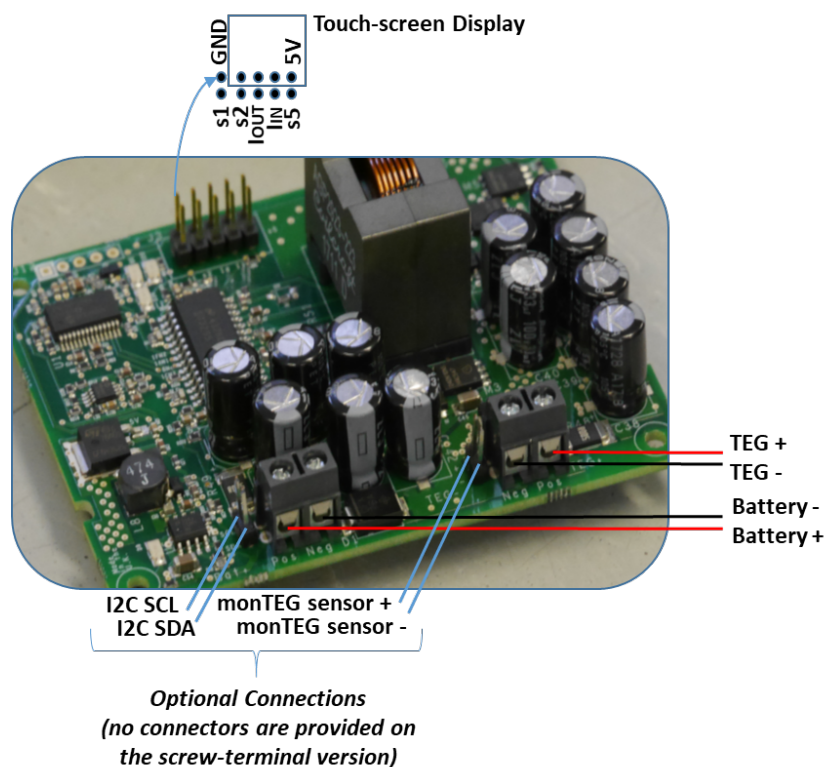
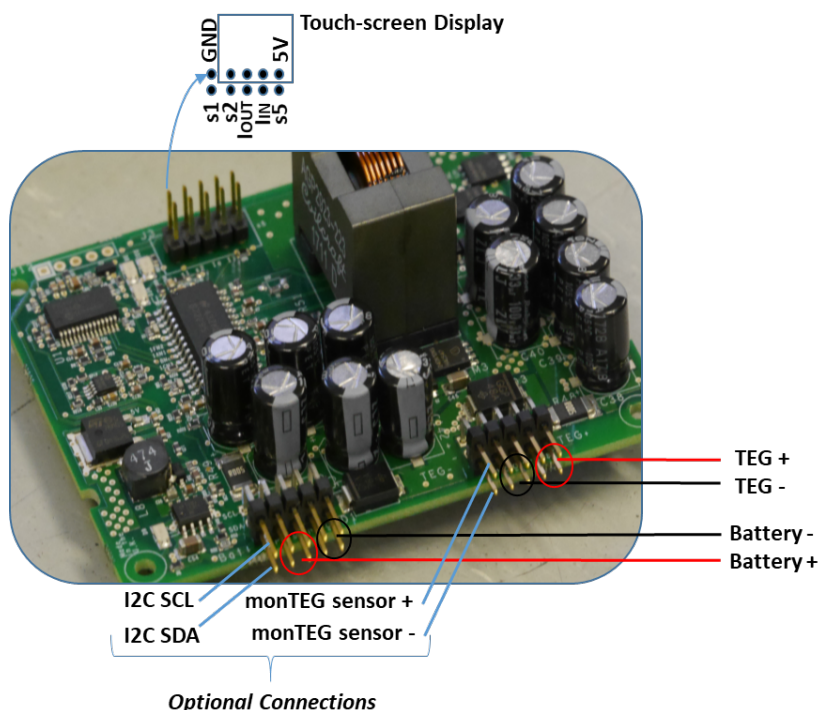

Figure 1: Diagram of connections to the KM3 converter with screw connectors
Figure 2: Diagram of connections to the KM3 converter with pin headers connectors
The KM3 requires a 12V or 24V battery at the output. Please refer to Fig. 1 and Fig. 2 for the connection diagrams. The output is not isolated from the input, *i.e.* TEG- is connected to BAT-.
- ❖ The touch-screen display is sold separately by TCS. It must be connected as per Fig. 2. The KM3 checks for screen connection every 60 sec. The screen provides measurement data (input/output current/voltage/power) and options to enable features and set parameters.